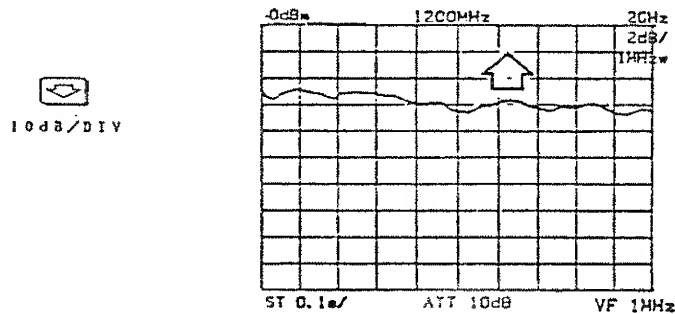

Figure 4-32 Moving the through Waveform
- ③ To change the reference level and to widen the dynamic range on the lower side of the tube surface for measurement of the cable loss, move the through waveform to the upper side of the tube surface as shown in Figure 4-32.